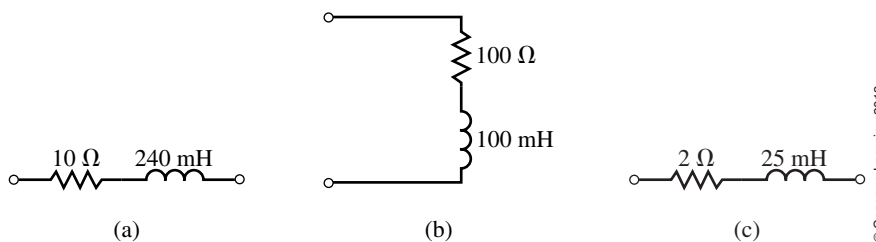

FIGURE 21–58
16. Consider the series networks of Figure 21–59.